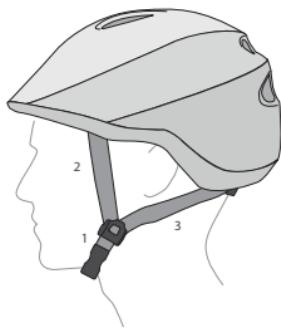

Figure 4. Left Buckle (1), Left Temple Strap (2), and Left Nape Strap (3)
3. Slide the strap adjustor on the left temple strap (Figure 4) until the strap adjustor sits just beneath the left earlobe.
4. Hold the strap adjustor position on the temple strap while you pull the nape strap (Figure 4) through the nape adjustor. The left buckle should almost touch the strap adjustor.
1. With the helmet off, pull the left nape strap (Figure 4) through the back of the helmet (Figure 5) to adjust the position of the left strap adjustor.